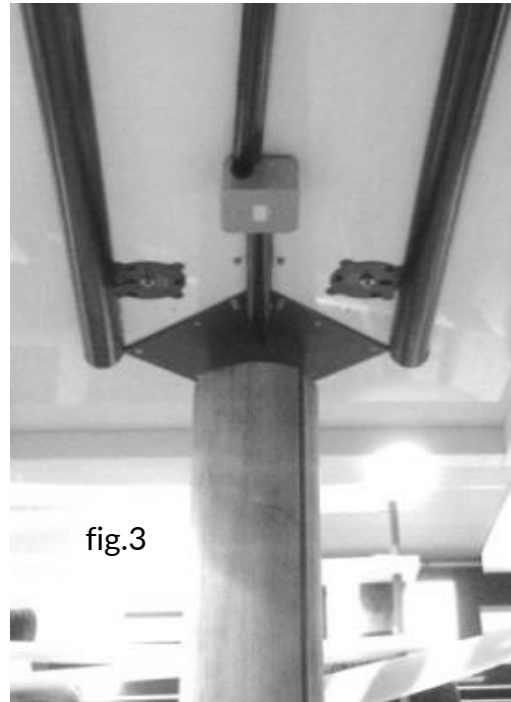

fig.3
3. Wire the feed from above and wire into a fixed spur. See fig. 3.